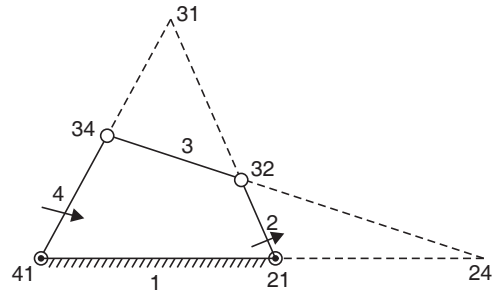

FIGURE 9.17
69. Figure 9.17, show a four-bar chain mechanism in which a link 1 is fixed. The number of instantaneous centres would be
70. In Fig. 9.17, the instantaneous centres 41 and 21 are known as
71. In Fig. 9.17, the centres 32 and 34 are known as
72. In Fig. 9.17, the centres 31 and 24 are known as